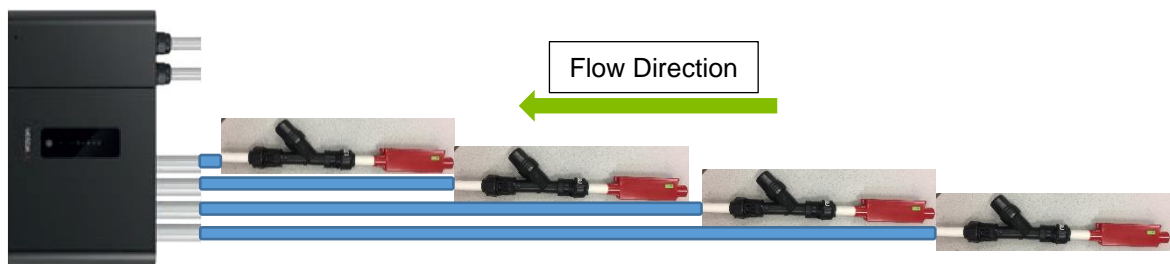

Figure 3: In-Line Mesh Strainer Installation
- In-line mesh strainer must be installed after the in-line filter (VSP-850) along the flow direction, that is in the direction towards the detector (see Figure 3 for an image reference of installation).
- Note that strainers are too large to be mounted next to each other on adjacent pipe and may need to be staggered for installation, as shown in Figure 3.